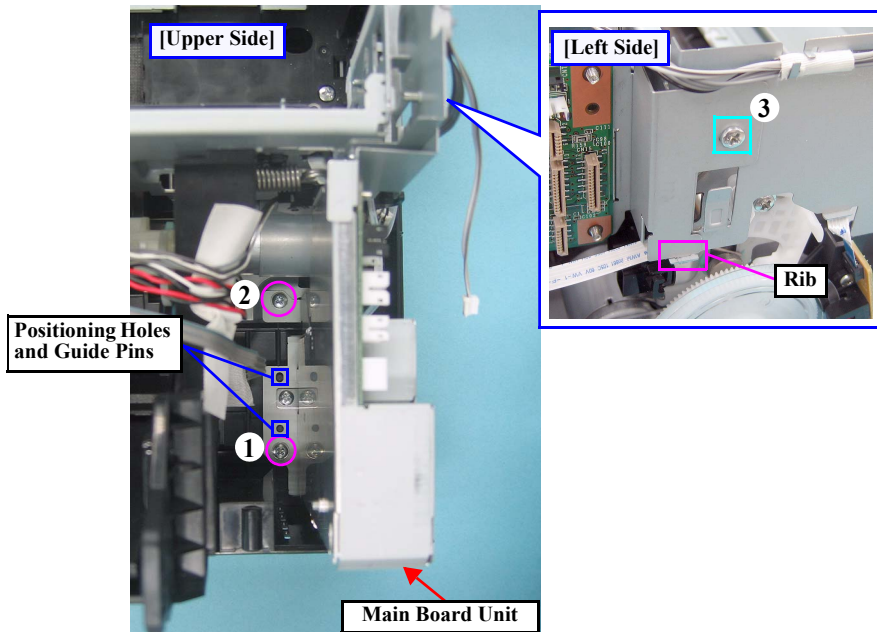

Figure 1-25. Removing the Main Board Unit (2)
- Match the positioning holes with guide pins shown in Fig.1-25.
- Insert the rib of the Main Board Unit into the positioning hole of the Cable Holder Frame as shown in Fig.1-25.
- Tighten the screws in the order given in Fig.1-25.